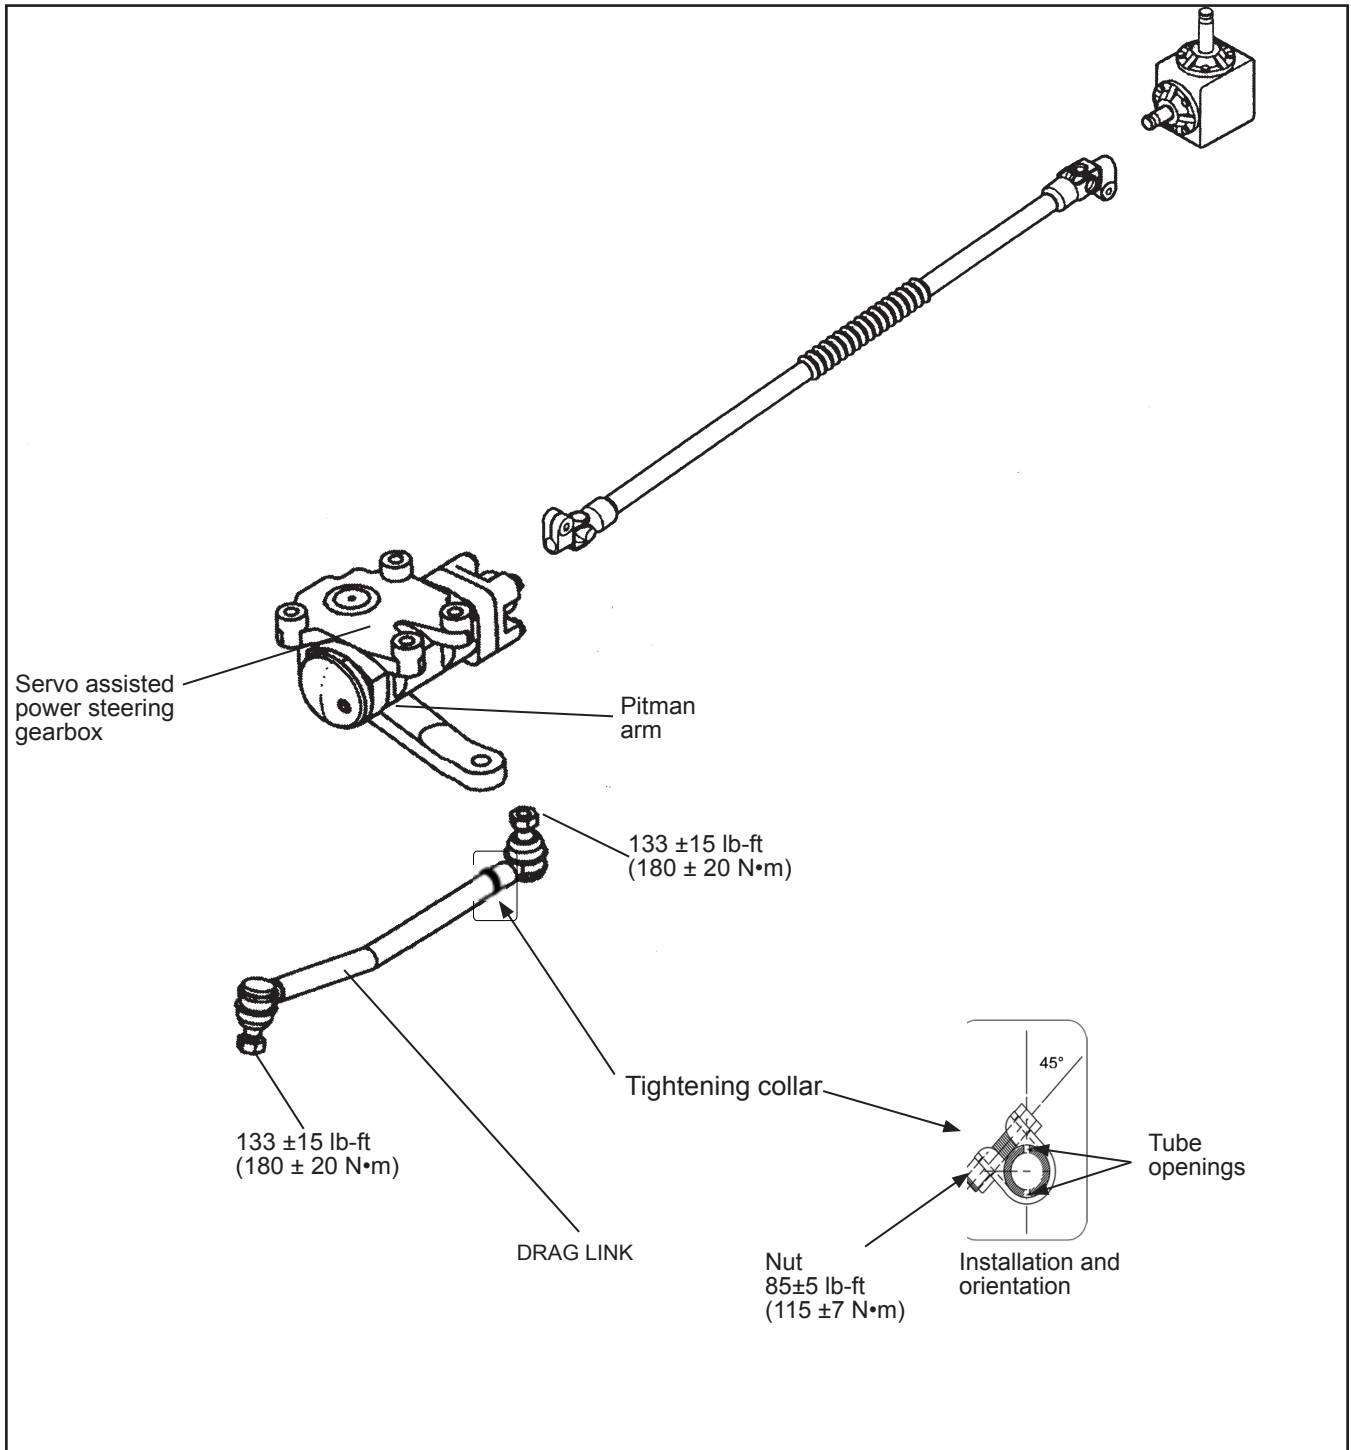
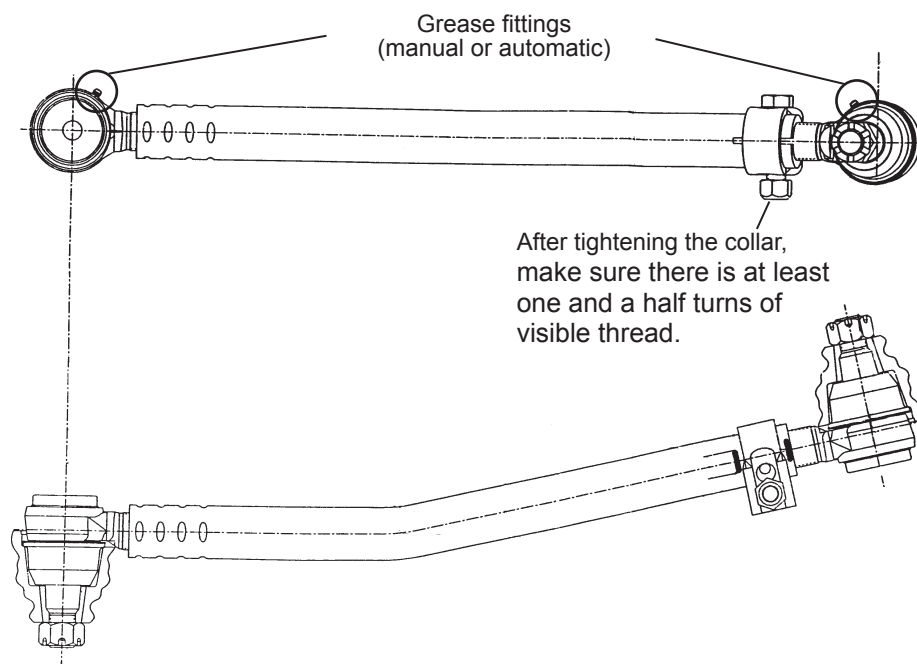

Figure 4 - Couples pour la tige d'entraînement
Figure 5 - Drag Link
- 2.2. Remove the drag link and transfer the grease fittings (manual or automatic) to the new drag link. See Figure 5.
- 2.5. Check the pitman arm position. See Figure 4 and see SECTION 07: STEERING MECHANISM in your manual.
- 2.9. Position the collar so that the axis of the nut is at an angle of 45° relative to the tube opening. Torque the clamping collar bolt until the torque value indicated in Figure 4 is reached. And make sure there is at least one and a half turns of visible thread. See Figure 5.
- 2.10. Check the adjustment. The front wheels should be able to turn from extreme right to extreme left without the drag link ends blocking. Tighten the slotted nuts to the appropriate torque value. See Figure 4.